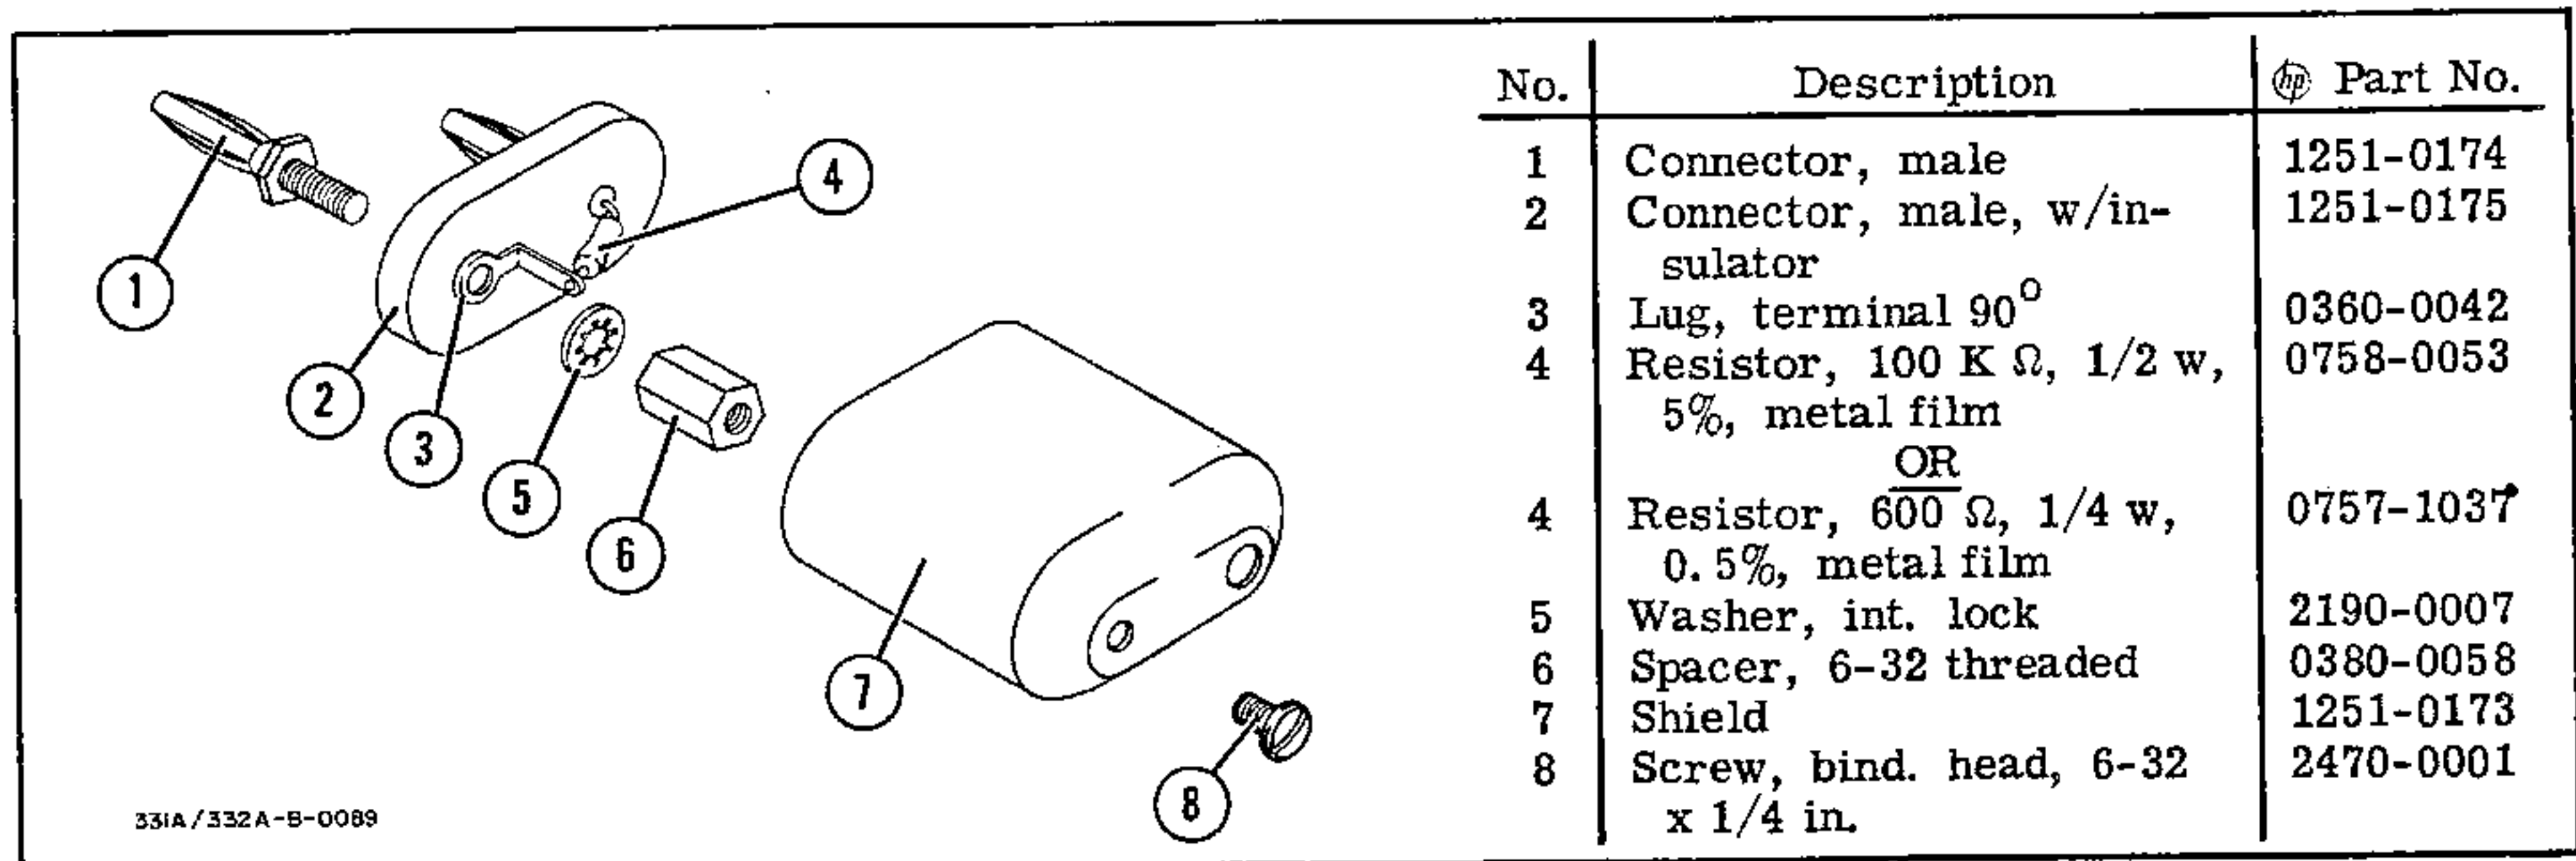

Figure 5-8. Shielded Load
- a. Connect a shielded 600 Ω resistor across the Distortion Analyzer INPUT terminals. (See Figure 5-8 for details on constructing shielded load.) Secure the shorting bar between the power line ground and circuit ground terminals.